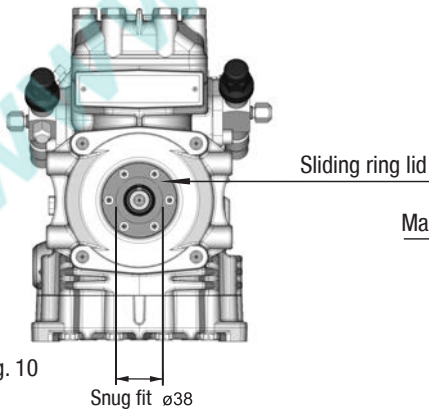

Fig. 10
- To absorb the magnetic field of the electromagnetic clutch, the sliding ring lid has a snug fit $\varnothing 38 \text{ h8}$ (see Fig. 10).